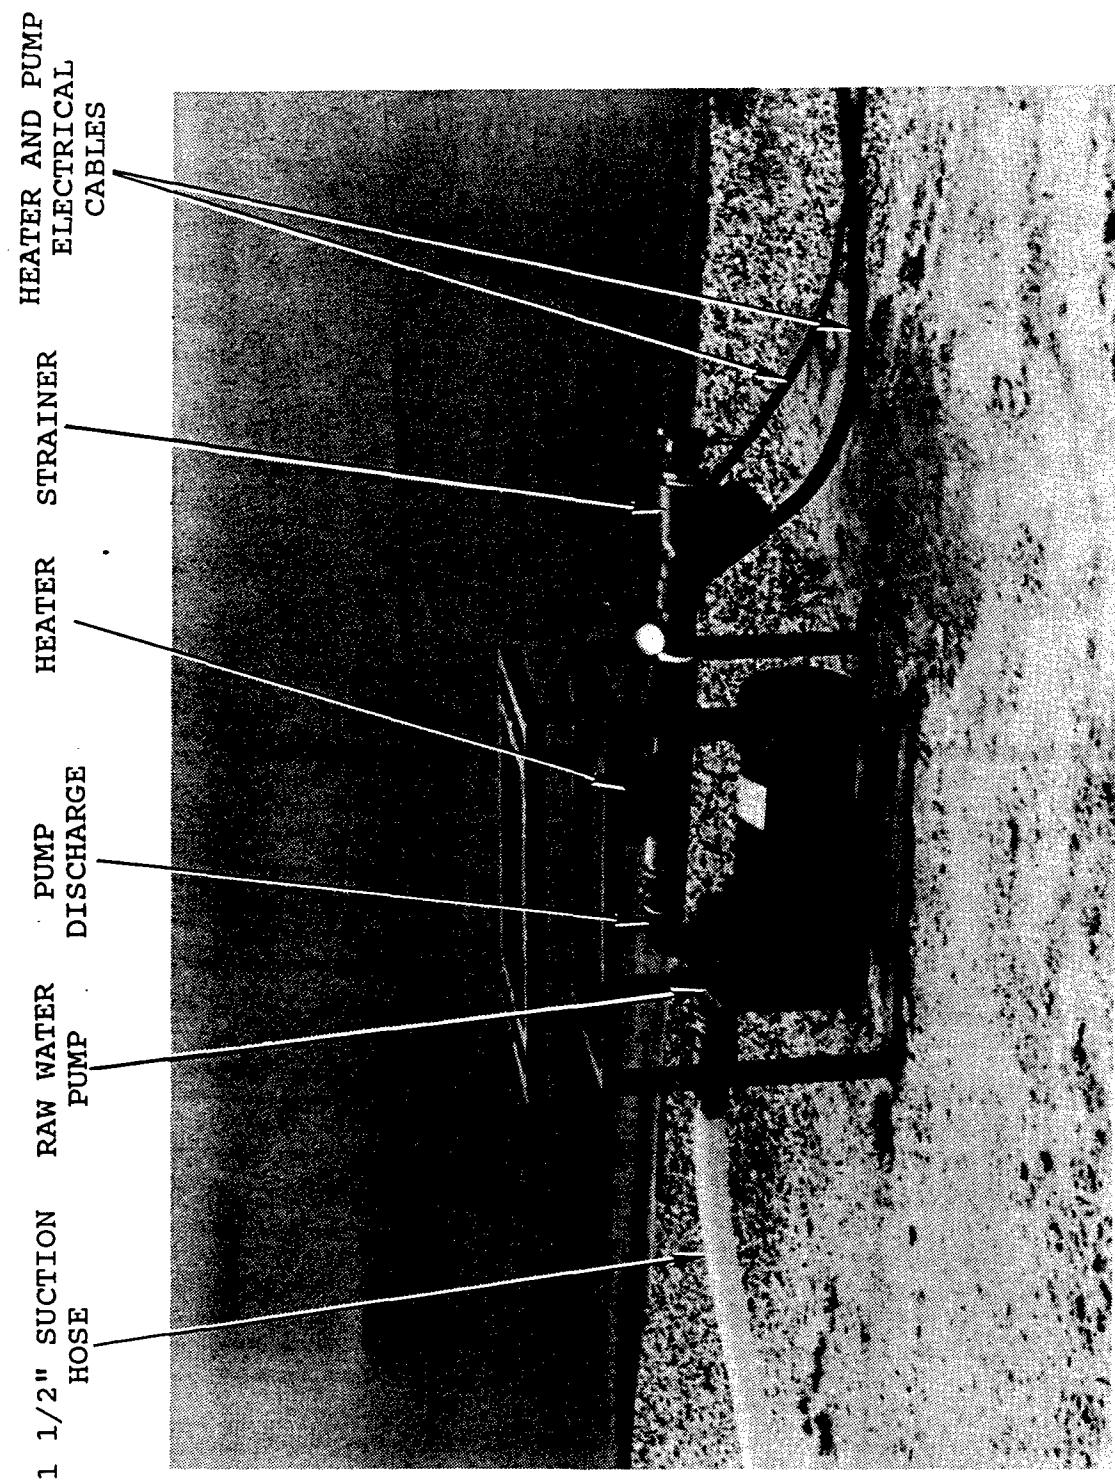

Figure 2-4. Heater and Strainer Installation.
- c. Attach the heater,strainer piping assembly to the hose connection at the discharge of the pump as depicted in figure 2-4.